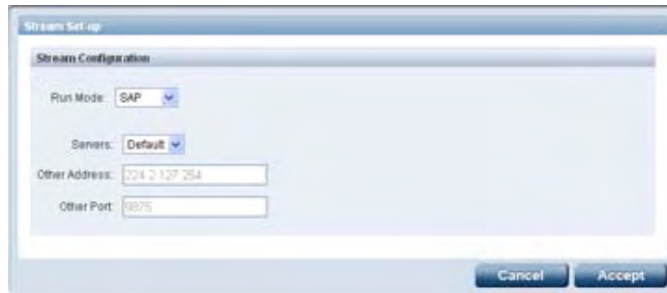

FIG. 24 Stream Set-up Page
The *Stream Set-up* page (FIG. 24) allows you to control the stream configuration, including the mode used and the individual server being accessed.
1. From the *Stream Set-up* page, choose SAP from the *Run Mode* drop-down menu. (See FIG. 24.)